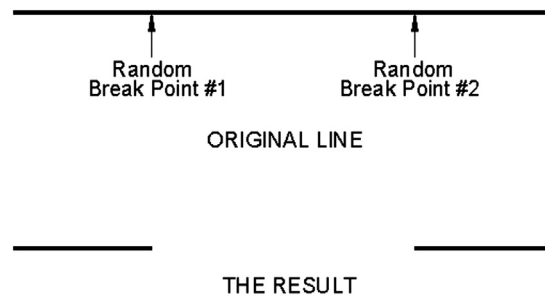

FIGURE 15.10
Step 3. Pick another nearby point on the line, and a section between these two points is removed (Figure 15.10).